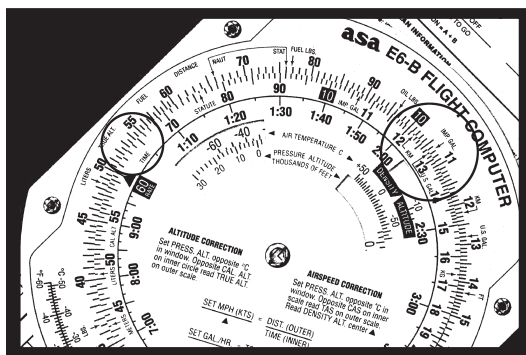

Figure 10
3. Read 53.2 Imperial gallons on the outer scale (see Figure 10). Because Imperial gallons are larger than U.S. gallons, the number of U.S. gallons will always be larger.